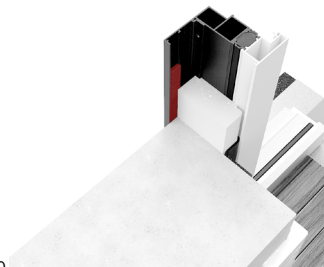

Fig. 10.
1. Glue pre-compressed sealing tape (hereinafter referred to as PCST) on the inner part of the trim (adjacent to the wall), along the contour (Fig. 10).